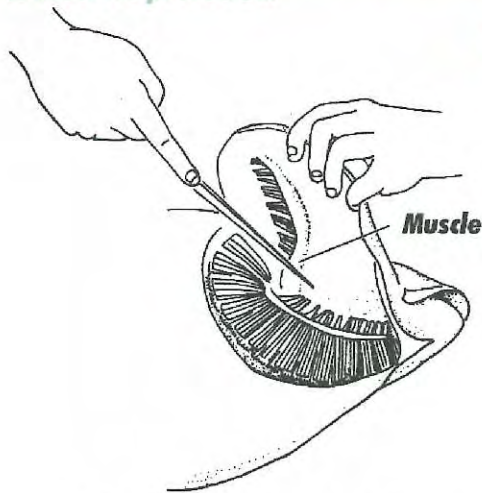

Figure 12. Cut the main muscle attaching the gill cover to the head.
- Step 4** Pull the gill cover back, reach inside the cavity with a knife, and thin cut the main muscle attaching the gill cover to the head. Make this cut on both sides of the fish to allow easier access to the gills, which needs to be removed (Figure 12).